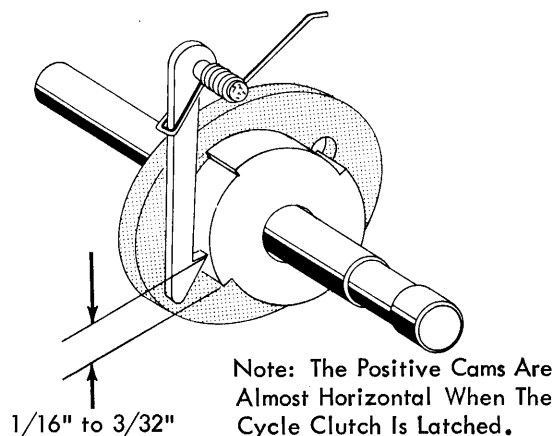

FIGURE 90. Radial Position of Cycle Clutch Collar
- c. Radial position of the collar - (The position of the collar directly controls the radial position of the left hand end of the cycle clutch spring with respect to the cycle shaft. It determines how much the spring clutch will be expanded when the cycle clutch sleeve is latched and the cycle shaft is in its rest position.) Adjust the collar so that when a zero tilt, negative-five rotate character is hand cycled the cycle clutch spring will begin to slip (expand) when the cycle shaft is 1/16" to 3/32" from its rest position measured on the surface of check ratchet (Fig. 90).